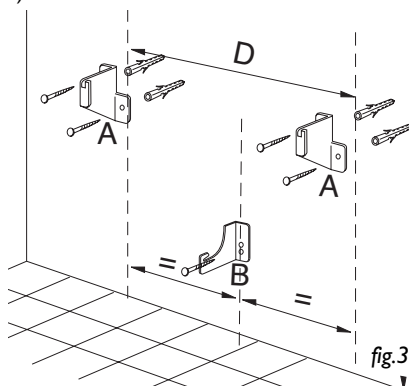

fig.3
3. Line up the centre of the holes of the brackets "A" with the marked lines (indicated in fig 3 and 4 as the dashed lines) ensuring that the 2 brackets are level, mark the holes to be drilled.